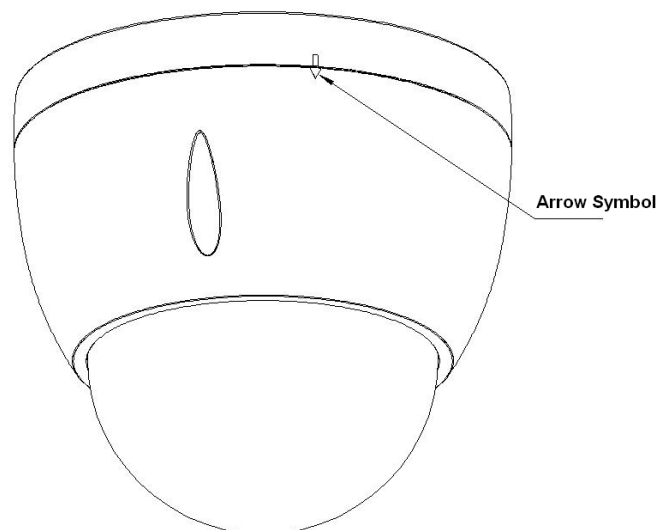

Figure 3-3
- 4) In Figure 3-3, line up the arrow symbol on the speed dome external enclosure to the bar symbol of the pedestal. Use three screws (provided) to secure the external enclosure on the pedestal and fix firmly.